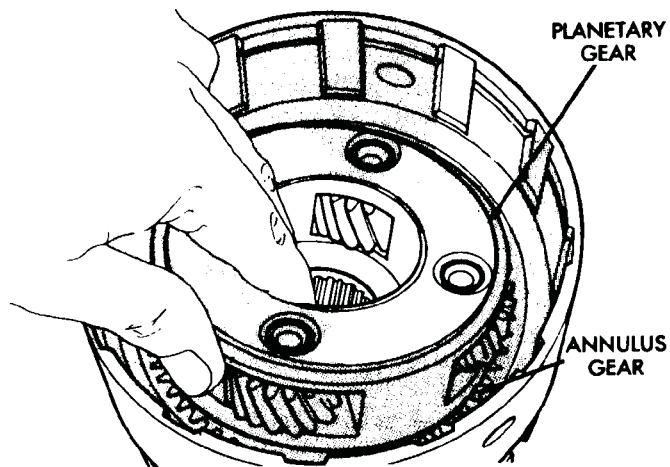

Fig. 51 Planetary Gear Installation
(12) Install planetary gear in annulus gear (Fig. 51). **Be sure planetary pinions are fully seated in annulus gear before proceeding.**